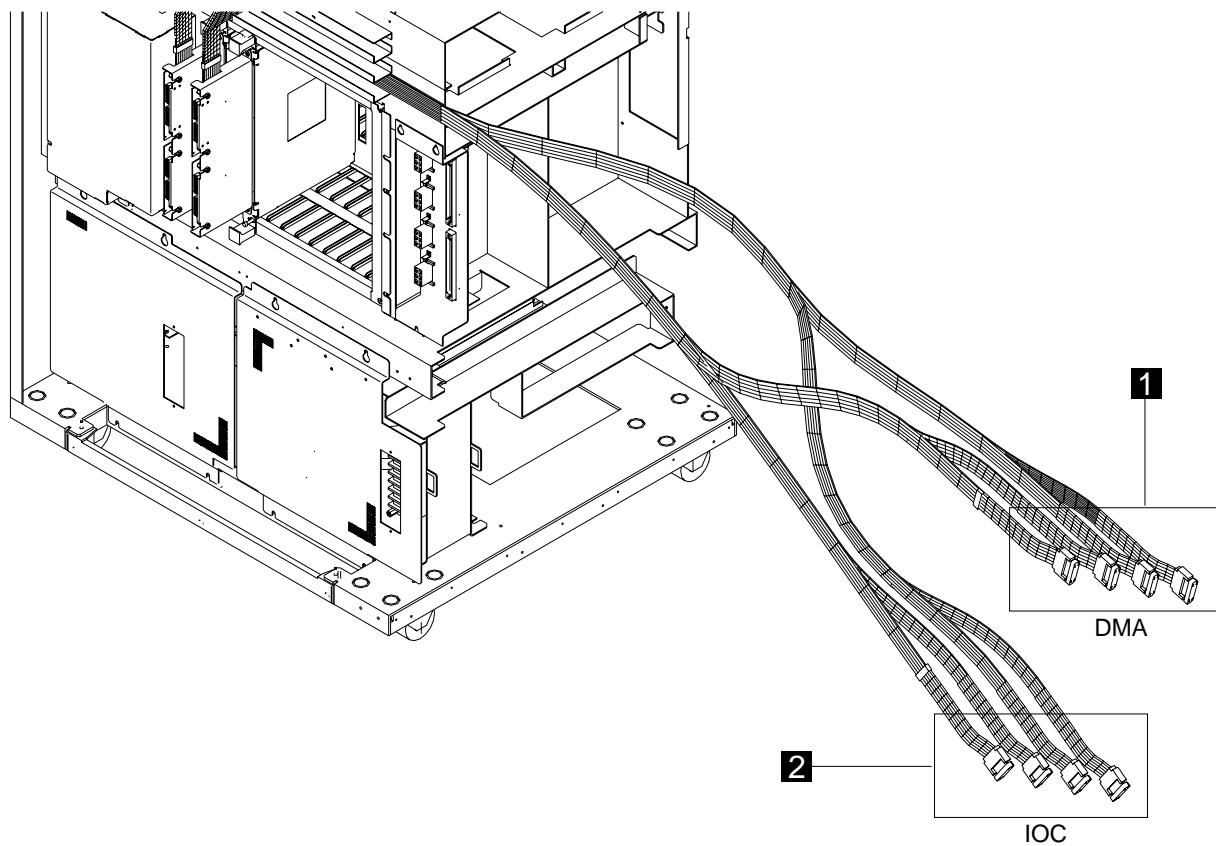

Figure 4-11. IOC and DMA Cables
Step 12. ____ In the 3746-900, locate the four IOC flat cables **2** (see Figure 4-11 on page 4-13). Cables **2** should be labeled: To 3745 X02, X03, X04, and X05.
- Step 3. ____ In the 3746-900, locate the four IOC flat cables **2**. (see Figure 4-11 on page 4-13). These cables should be labeled: to 3745 X02, X03, X04, and X05.